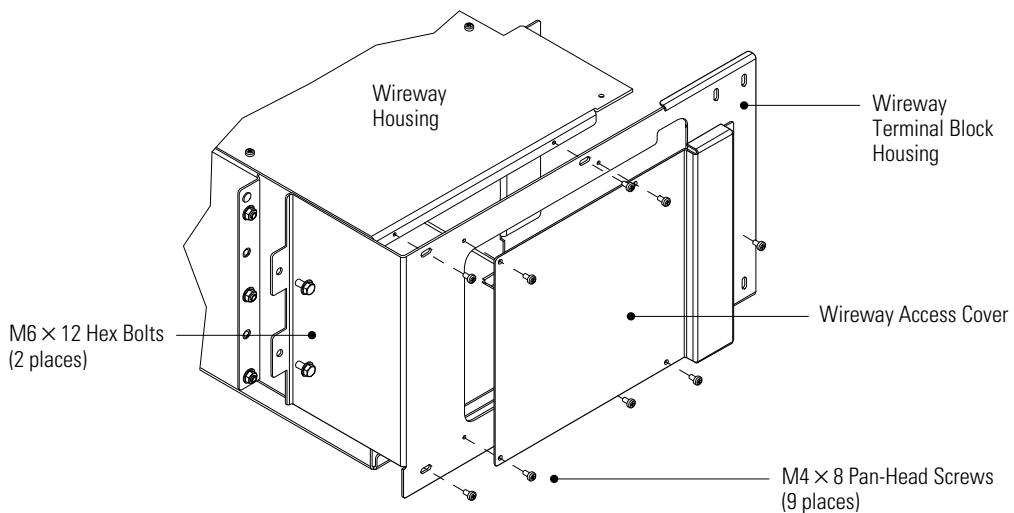
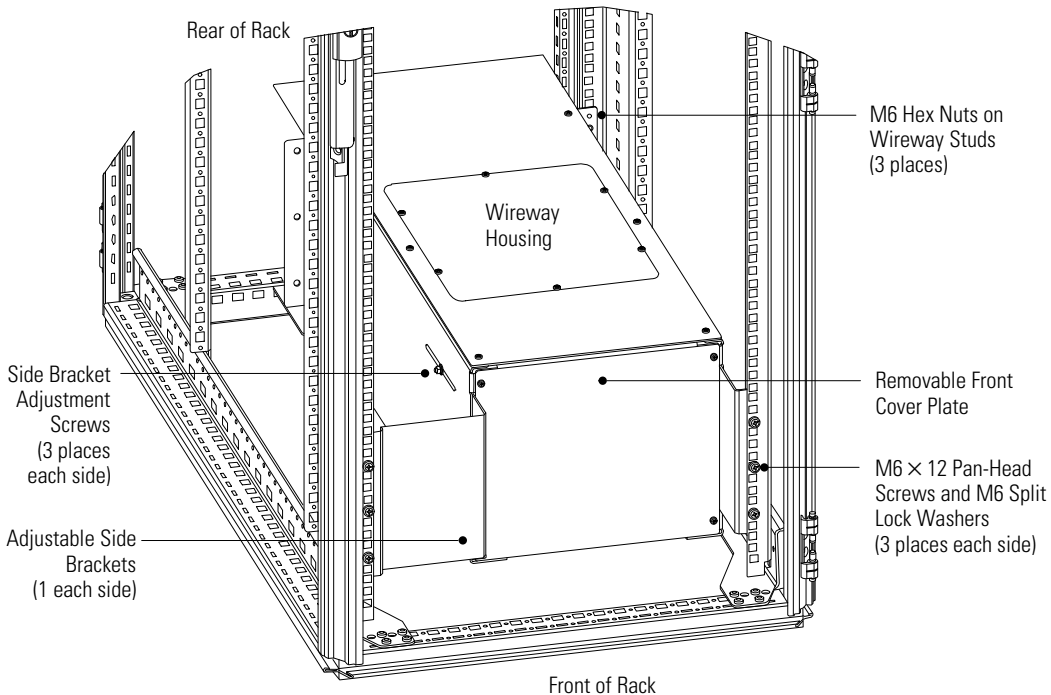

Figure 2. Wireway Disassembly
Figure 3. Wireway Installation
1. Remove the access cover and terminal block housing from the wireway housing (see Figure 2). Retain the wireway terminal block housing, wireway access cover, and screws. Leave the two side brackets installed on the wireway housing (see side bracket locations in Figure 3).
3. Place the wireway housing into the bottom of the rack so that the adjustable side brackets are nearest the front of the rack (see Figure 3).